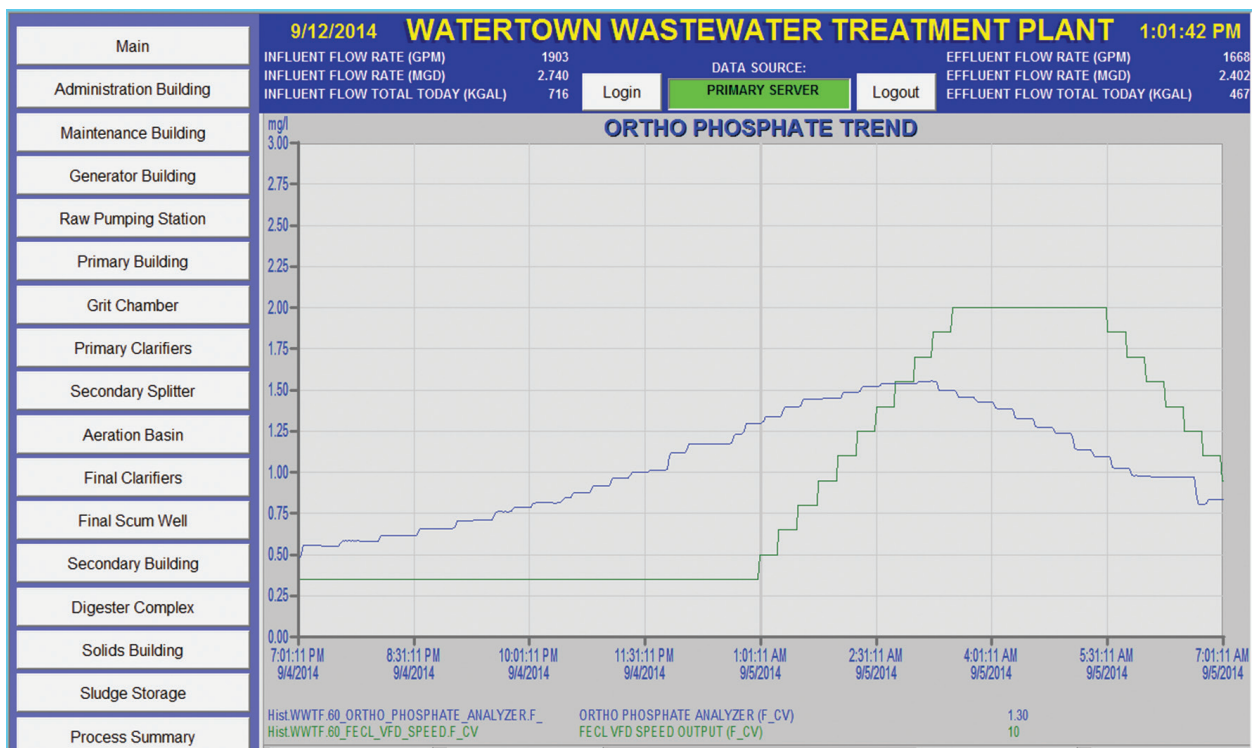

Figure 2 - Phosphorus Removal System Monitoring and Control System Operation
5 Hz increments across a range from 5 to 60 Hz. The screenshot in Figure 2 illustrates how the system works. The pump speed, in green, is maintained at a minimum level until the orthophosphate (OP) concentration, in blue, rises above the programmed 0.7 mg P/L setpoint. Pump speed increases until the OP concentration peaks and starts to decrease. Pump speed returns to minimum speed again when the OP concentration falls below the setpoint.